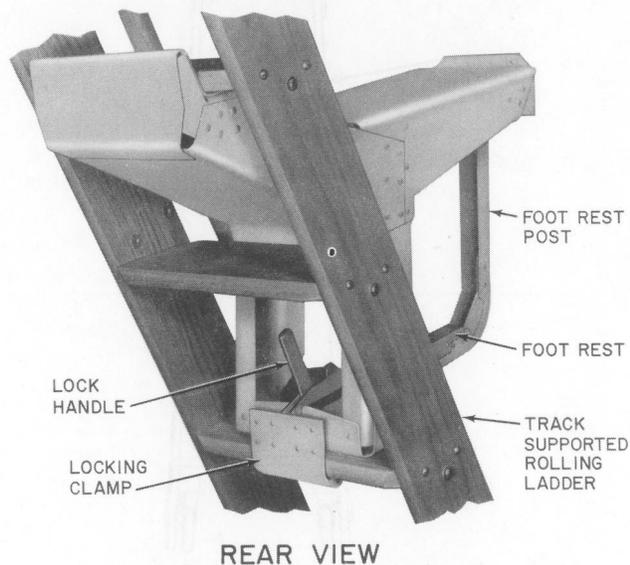

Fig. 5—KS-5173-02 Ladder Seat in Place on Track Supported Rolling Ladder
- 6.16 A metal ladder seat KS-5173-02 (Fig. 5) is placed on a ladder in the following manner: